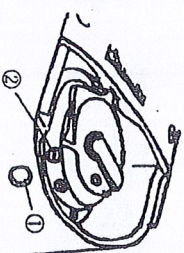

Fig. 9
13、How to adjust the lower thread (Fig.9):